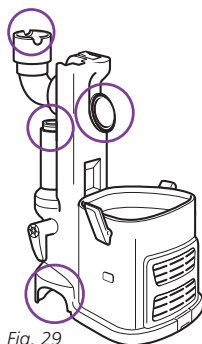

Fig. 29
- Remove the dust cup and extension wand and separate the portable *Lift-Away*® canister from the motorized floor brush. Look in all 4 openings for any blockages. (**Fig. 29**)